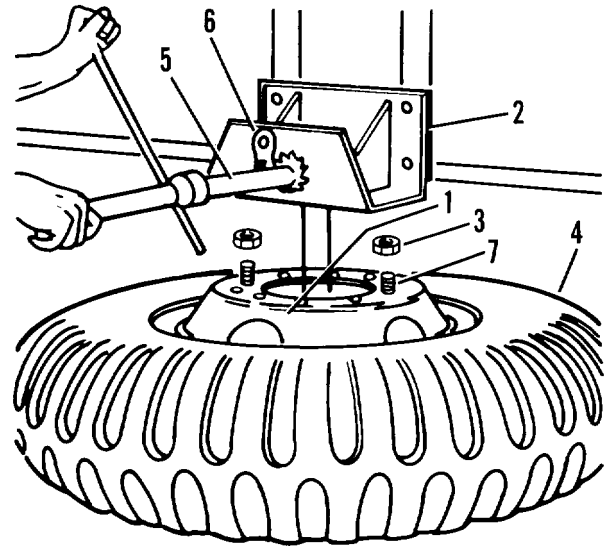

Figure 2-31. Spare tire carrier
- (1) With lug nut wrench from towing vehicle, loosen two safety nuts (3, figure 2-31) securing studs (7) of wheel support (1) in the bracket assembly (2).
- (2) Rotate tire (4) slightly to free studs from slots.
- (1) Insert wheel support (1, figure 2-31) in hub opening and fit securing studs in two stud holes in the wheel.
- (2) Screw safety nuts (3) loosely on studs (7).